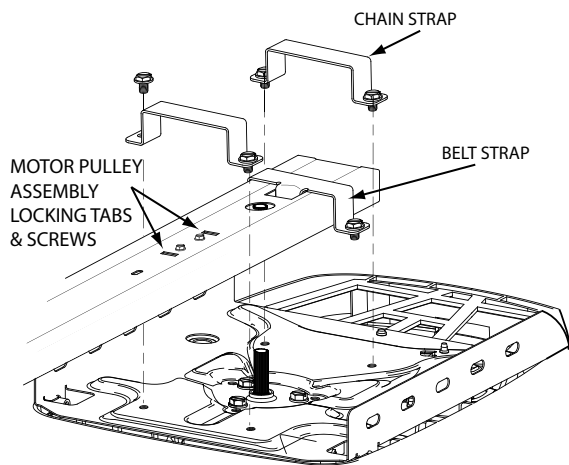
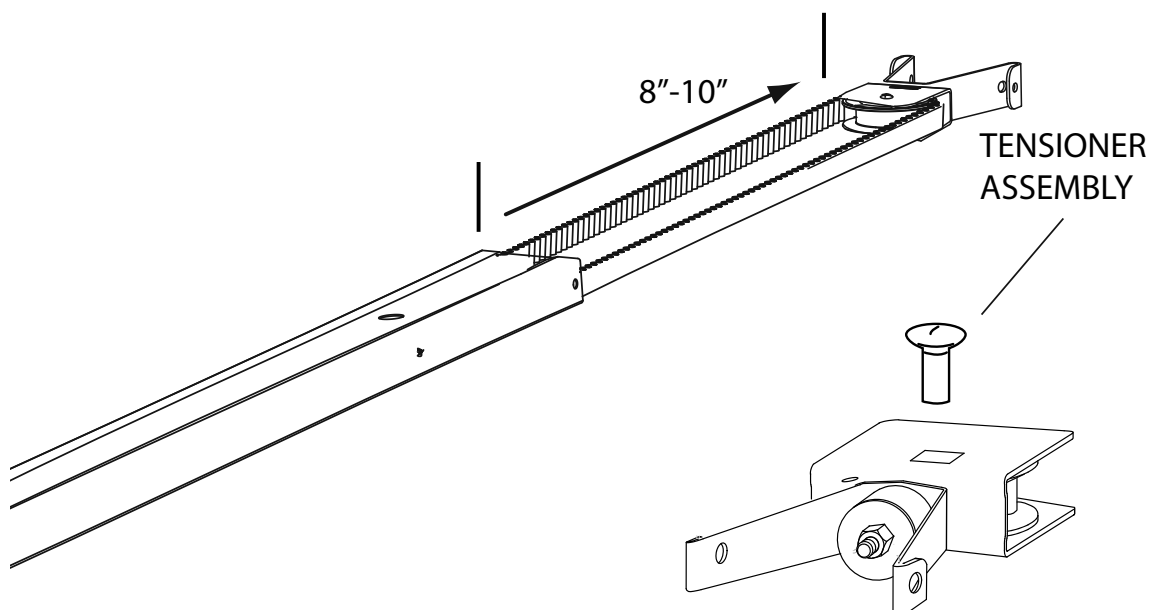

FIG. 3
FIG. 5
8. Remove the 4-7/16" self tapping bolts from the Rail/Motor mounting straps and pull Rail from Motor Head. FIG.3. Set Motor Head aside. Set Rail Assembly on floor upside down to aid in disassembly.
10. Remove 2-1/4" screws from Motor Pulley Assembly. FIG. 3.
11. Dislodge Motor Pulley Assembly from locking tabs (FIG. 3) and slide towards door end of rail to feed Tensioner Assembly, and Belt/Chain out through the end of the Rail approximately 8"-10". FIG. 5.
12. Remove Pulley Pin from Tensioner assembly and discard old Pulley. FIG. 5. Install replacement Pulley and Pin.